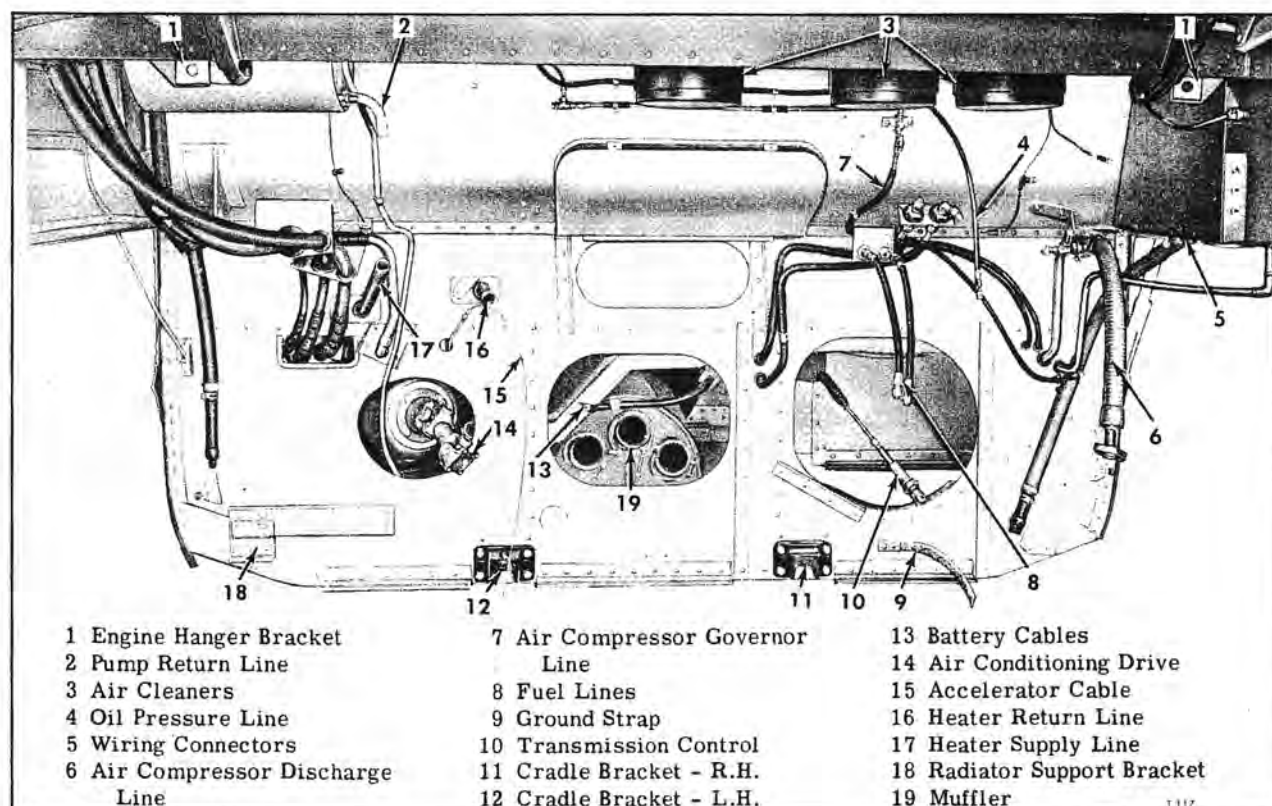
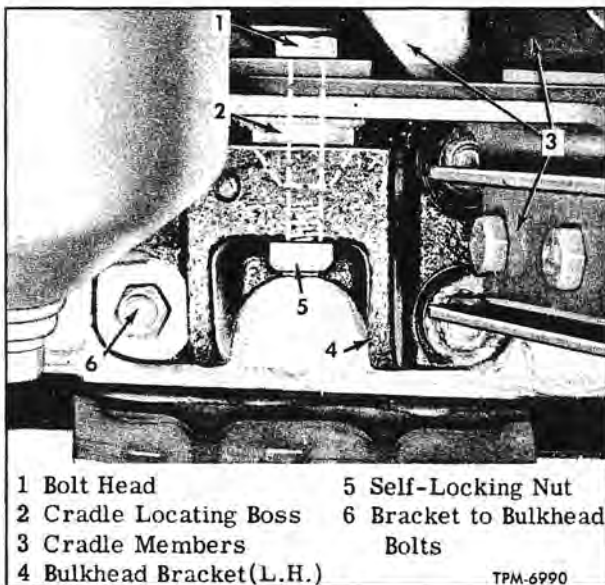

Figure 11—Engine Compartment Disconnect Points—6 Cylinder Shown
Figure 14—Construction at L.H. Cradle Bracket at Bulkhead
Brackets (figs. 11 and 12 at lower edge of bulkhead support the front side of cradle, while rear side is supported by two hanger and brackets
suspended from support beam at rear of coach body. Instructions which follow describe method of replacing the complete power plant assembly. A special dolly must be used to support the power plant at cradle, and provide a means for moving the assembly out of engine compartment. Refer to figure 11 and 12 for location of various disconnect points in replacing power plant.
Key numbers in text refer to figures 11 and 12 unless otherwise indicated.
14. Disconnect water hose (18) from engine to radiator (8-cyl.) and loosen heater line hose clamps at (16 and 17).
15. Disconnect accelerator control cable (15) from engine at governor.
16. Loosen hose (20) at connector on top of radiator used on 8-cylinder engine models.
17. On 6-cylinder engine vehicles only, remove bolts from radiator lower support member bracket (18, fig. 11) and bolt and rubber mountings at radiator upper support.
18. Disconnect oil pressure manifold to engine oil line (4) at engine.
20. On mechanical transmission and clutch equipped coaches, disconnect transmission and clutch control rods (10) as directed in respective sections of this manual.
1. Move power plant assembly into position, with cradle engaging brackets (11 and 12). Install bolts with nuts at bottom (fig. 14).
2. Install support hangers and connect at brackets (1). Tighten all bolts including those at bulkhead brackets firmly.
4. On 6-cylinder engines only, connect radiator support member at bracket (18, fig. 11), and install radiator mounting parts at upper support, also tighten hose clamps at radiator connection on surge tank.